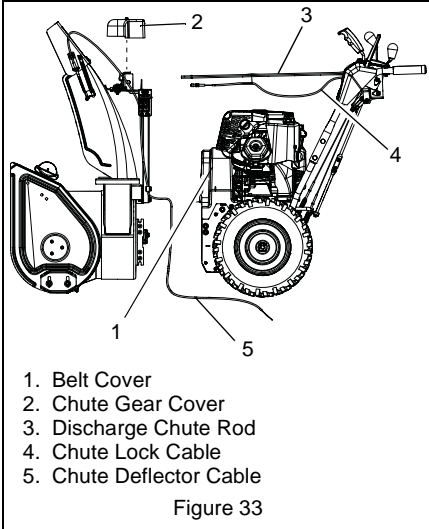

Figure 33
11. Remove hex bolts securing housing to frame (two on each side). Tip housing and frame apart on pivot pin (Figure 33).